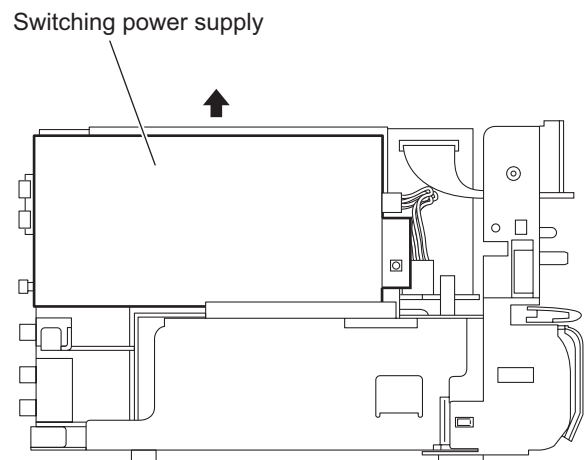

Fig.14
- (2) Take out the switching power supply in the direction of the arrow. (See Fig.14.)